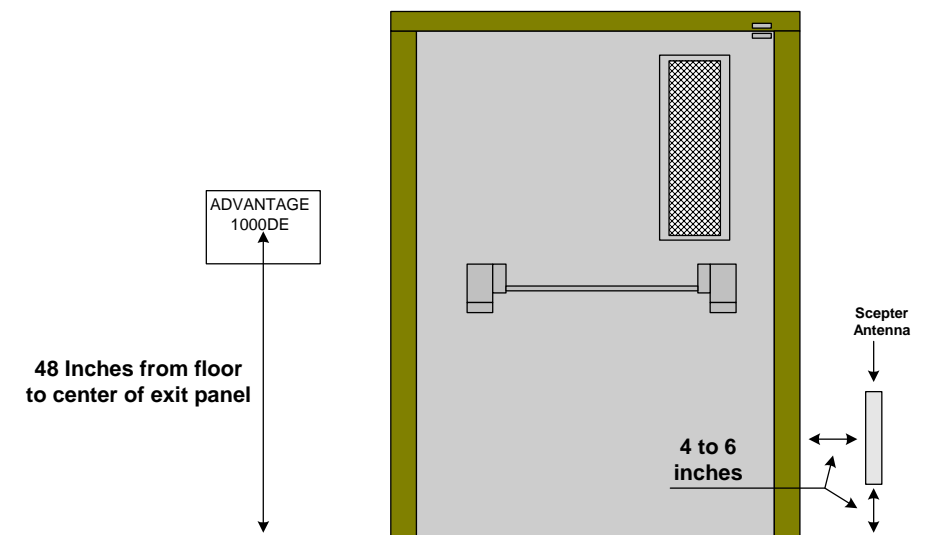

Figure 4-1 Mounting locations examples
4. Determine the location of the Advantage 1000DE Exit Panel and cut holes in the wallboard as needed. Mount surface mount boxes if required. Refer to Fig. 4.1
7. Mount the Scepter® Antenna and route the cable into the Exit Panel box. (Scepter Antenna should not be mounted on metal) Refer to Fig. 4.1